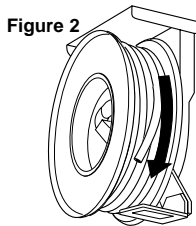

Figure 2
8. Pre-tension reel by rotating spool in clockwise direction (when viewed from swivel joint side). Full 360° turns should match last digit in model number on serial plate. See fig. 2.